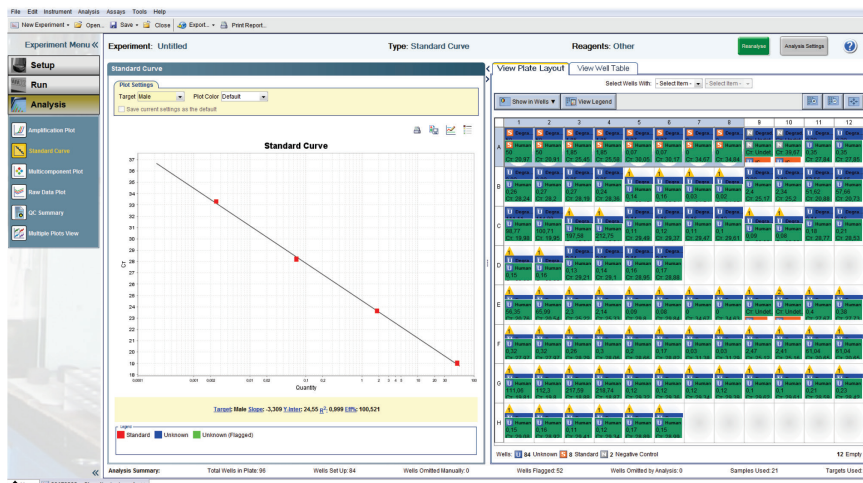

Figure 32. Standard curve.
- To view the standard curve, select the **Standard Curve** tab (found in the **Results** tab). View the C_T values for the quantification standard reactions and the calculated regression line, slope, y-intercept, and R^2 values (Figure 32).